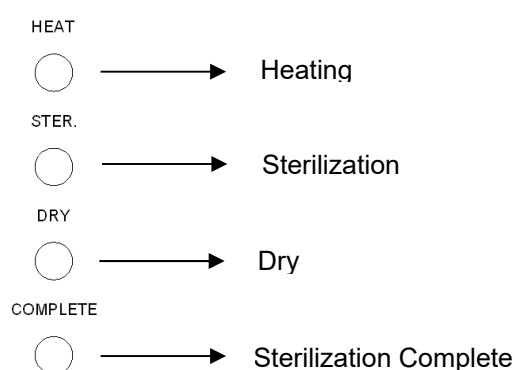

Figure 18
G.4 Press the START Button and the sterilizer will automatically run through the selected program. The current progress of the sterilization cycle is indicated by the illuminated LED on the Process Status Indicator. (Figure 18)